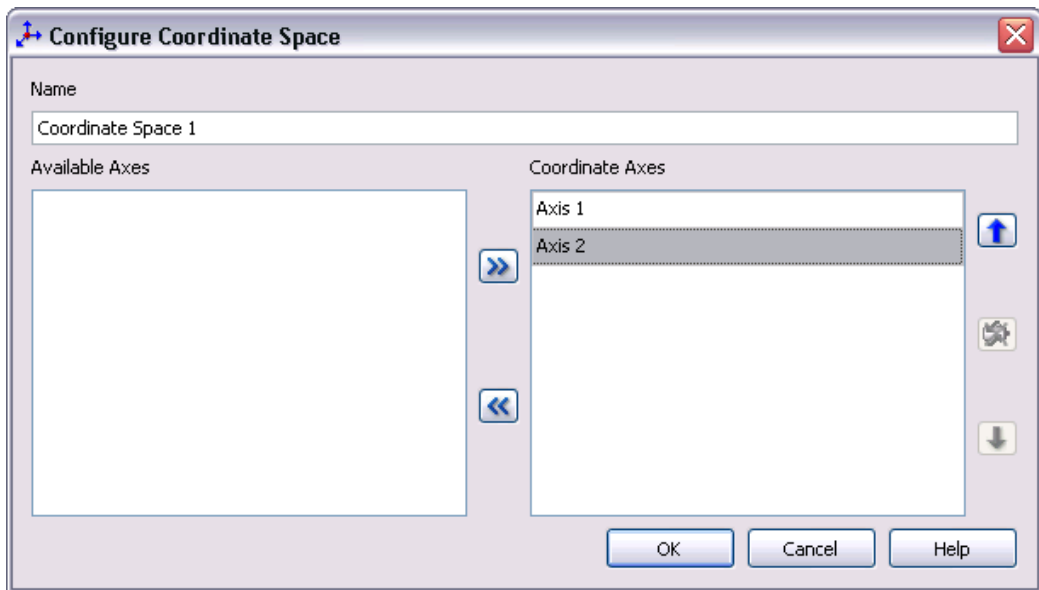

Figure 4. Configure Coordinate Space Dialog Box
1. Right-click the target in the **Project Explorer** window and select **New»NI SoftMotion Coordinate Space** from the shortcut menu to open the **Configure Coordinate Space** dialog box, shown in Figure 4.